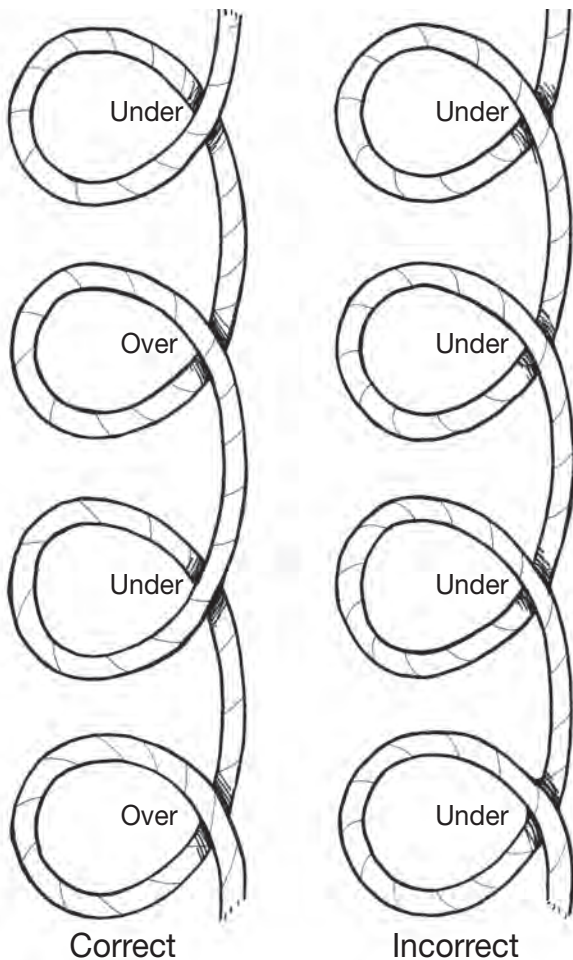

Figure 2-7—The correct (over-under) and incorrect techniques for coiling wire rope to avoid kinking.
- Controlling wire rope from the spool or drum, or reeling it in a linear orientation, unless you use the over-under technique of coiling (figure 2-7).